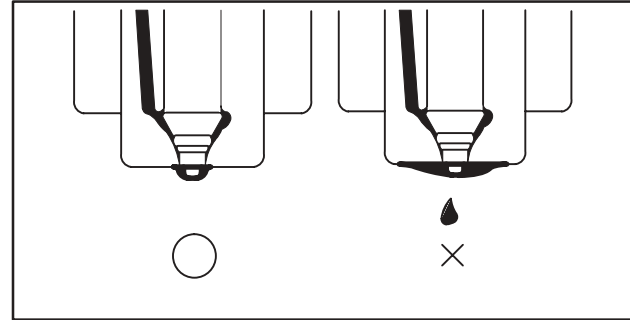

Fig. 16 – Checking Leakage
3. Check injector for leakage, Fig. 16.